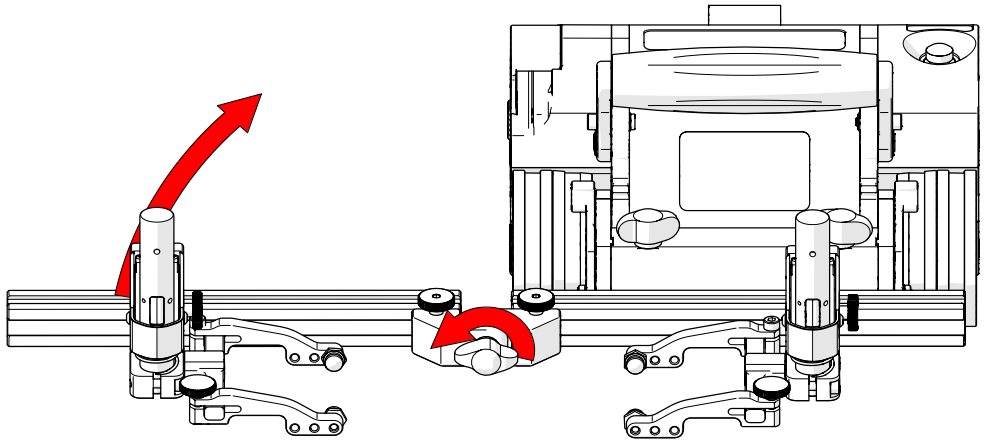

Fig. 172 - Lift frame bar to avoid interference
2. Loosen the pivot wing knob and raise the frame bar to an angle greater than the surface to be scanned (Fig. 172). Tighten the pivot wing knob and place the crawler on the scan surface (see "Placement of Crawler on Inspection Surface" on page 93)